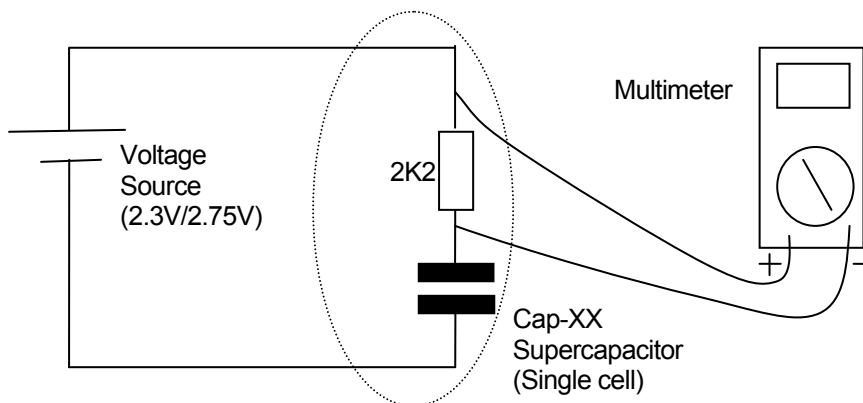
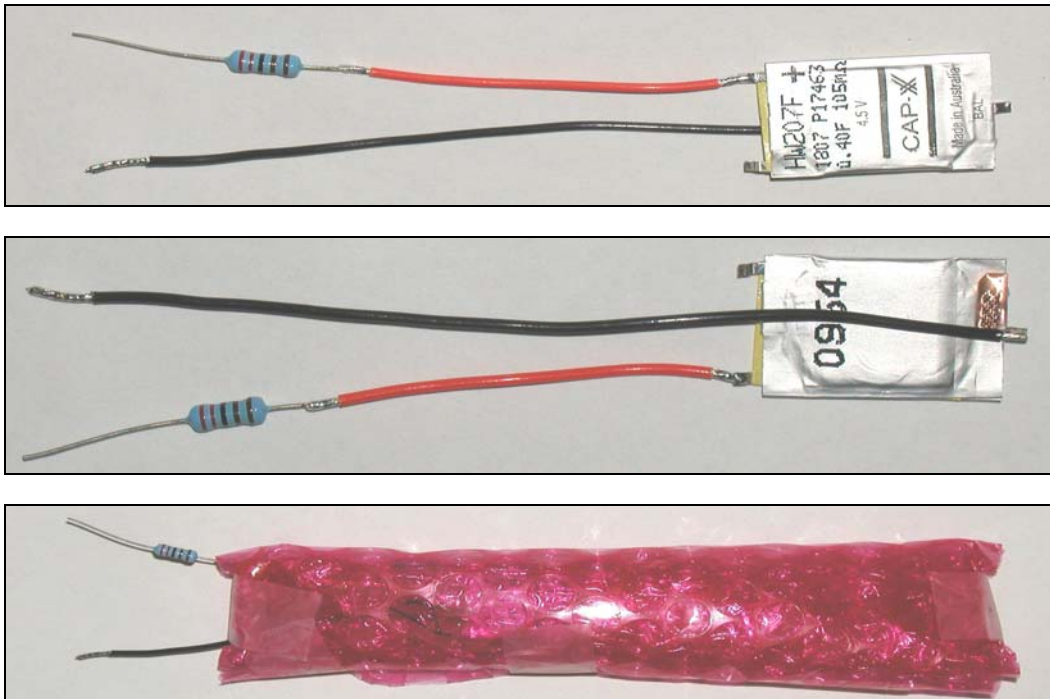

Figure 5: Measurement setup for leakage current
Figure 6: Picture of Supercapacitor Leakage Measurement Setup
A picture of the items circled in Fig 5 is shown below in Fig 6.
1. Assemble the circuit as shown in figure 5.
2. Solder wires and wrap the supercapacitor with the bubble wrap as shown in figure 6.
- a. to measure the leakage current of the top cell, connect the PSU V+ terminal to the supercapacitor + terminal, and connect PSU V- (or Gnd) terminal to the supercapacitor Bal terminal. This is the connection shown in Fig 6.
5. Disconnect the supercapacitor directly from the power supply and reconnect with the 2K2 resistor in series between the supercapacitor and the PSU, as shown in Fig 6.